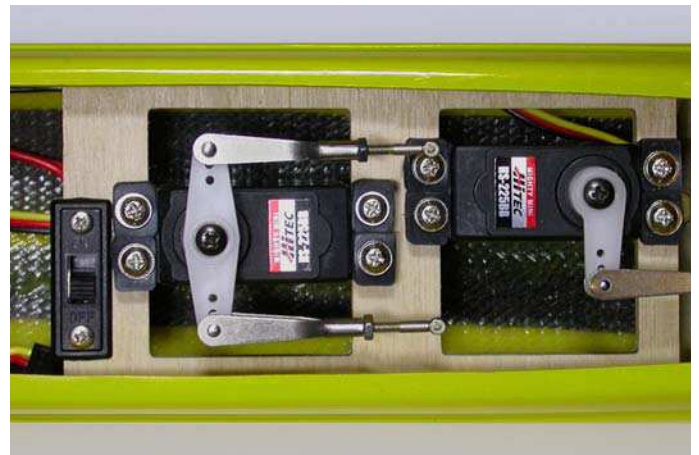

Fig.95: Connect the clevises.
- connect the clevises to the double arm horn of the servo “SEDR” (see figure 95);